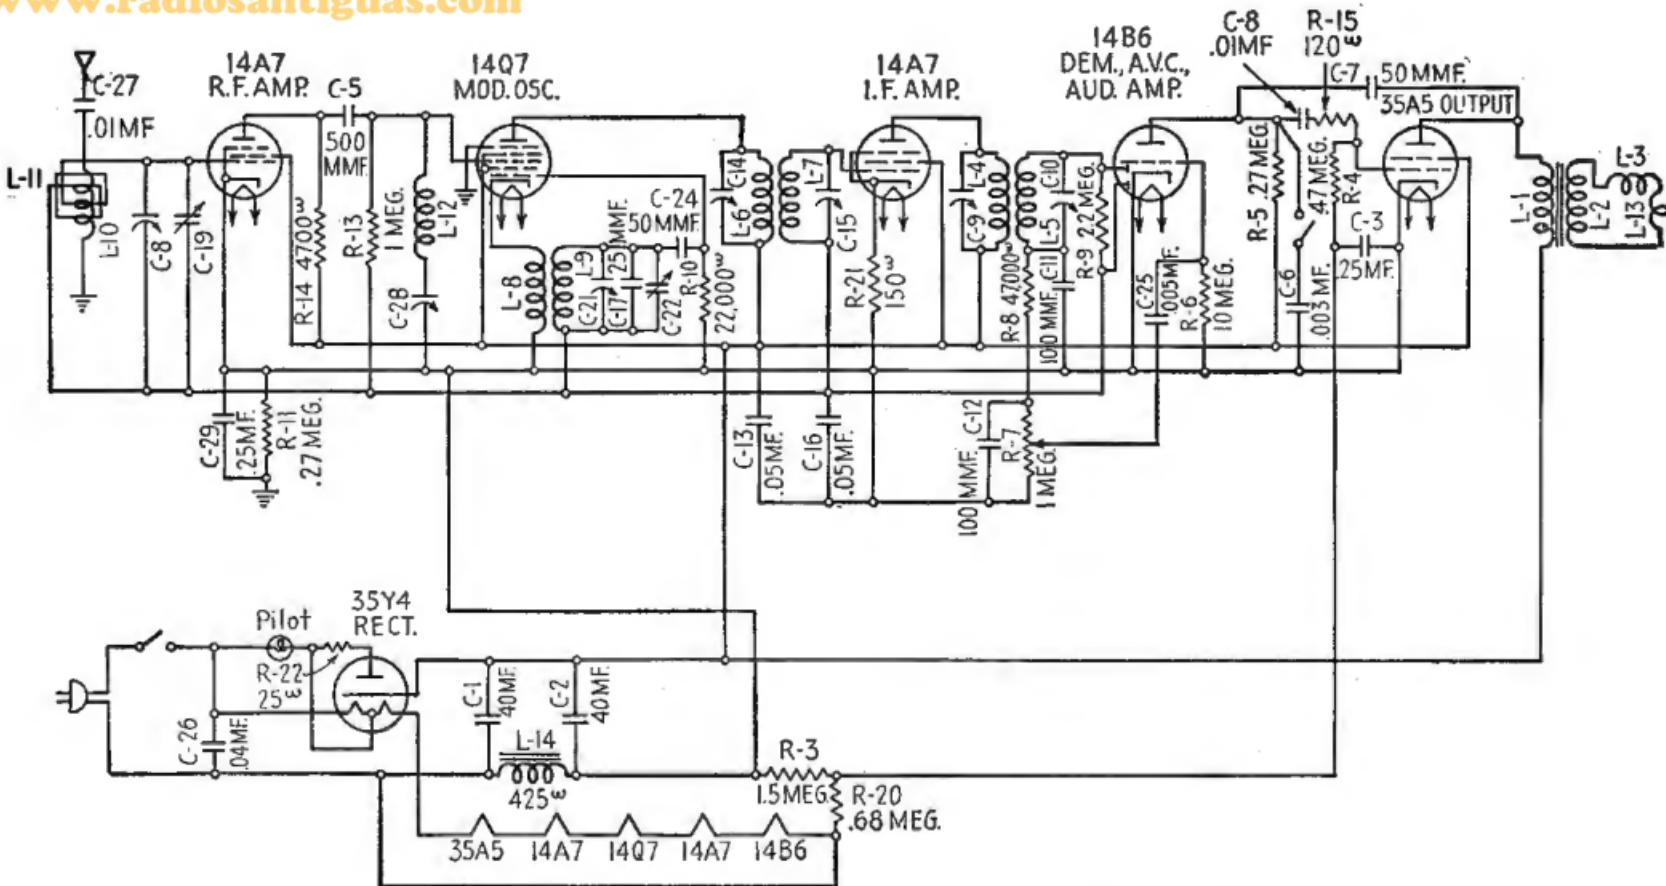

FIG. 16-10.—Schematic diagram of the Stromberg-Carlson No. 1000 receiver.
In loop receivers, the trap is usually placed in the converter signal grid circuit, where it serves a similar purpose by providing a low-impedance path to ground for signals at the intermediate frequency, which may be present in the converter signal grid circuit. Coil $L-12$ and condenser $C-28$ make up this type of wave trap in the receiver of Fig. 16-10.
RF Stage Followed by an Untuned Converter.—Many receivers employ an RF stage that is resistance-coupled to the converter signal grid. This arrangement gives the receiver some of the advantages of an RF stage while using only two tuned circuits: the RF grid and the oscillator. The Stromberg-Carlson No. 1000 receiver shown in Fig. 16-10 uses this type of circuit.
The coupling between the RF and the converter tubes consists of RF plate load R -14, coupling condenser C -5, and converter signal grid load R -13. The circuit composed of L -12 and C -28 in the converter signal grid is a wave trap tuned to the intermediate frequency of the receiver. Similar circuits in other receivers use different values for the components in the resistance-coupling circuit. The plate load varies from 5,000 to 10,000 ohms. The coupling condenser varies from 0.0001 to 0.0005 mfd. The grid-load resistor is often smaller than the one shown in the diagram, 25,000 to 100,000 ohms being more usual. Another circuit difference is that some receivers bring the grid-load resistor to ground or common negative rather than to the AVC bus, as shown in Fig. 16-10.
- The receiver of Fig. 16-10 gives poor reception in the customer's home although it operates normally on the service bench. A long out door antenna was suggested and installed. The reception was greatly improved but the receiver is now troubled with code interference all over the tuning range. What is likely to be wrong and how should it be checked?